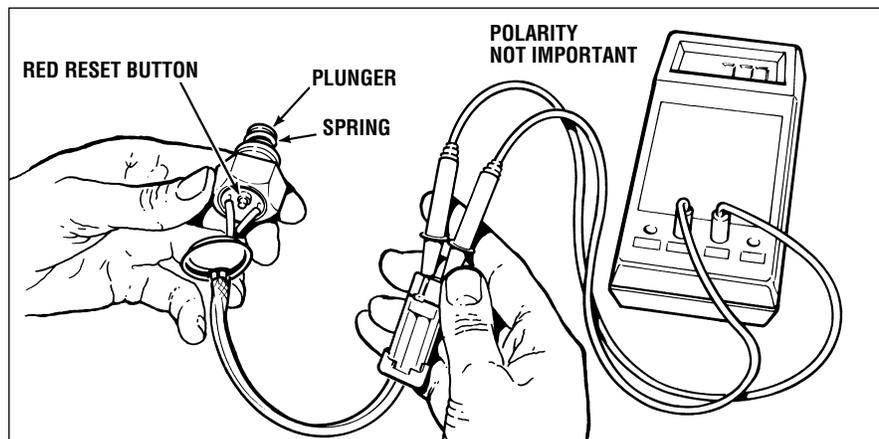

Figure 4-1 Overheat Sensor Test
- Connect a multimeter (adjusted to measure resistance) to the overheat breaker connector (See Figure 4-1). The sensor should be normally closed. Only if the sensor has tripped should it be open circuit. Breaker resistance when closed should be less than 1 ohm. (Ensure your measuring device is capable of measuring this low resistance before replacing the overheat breaker based on this test.)